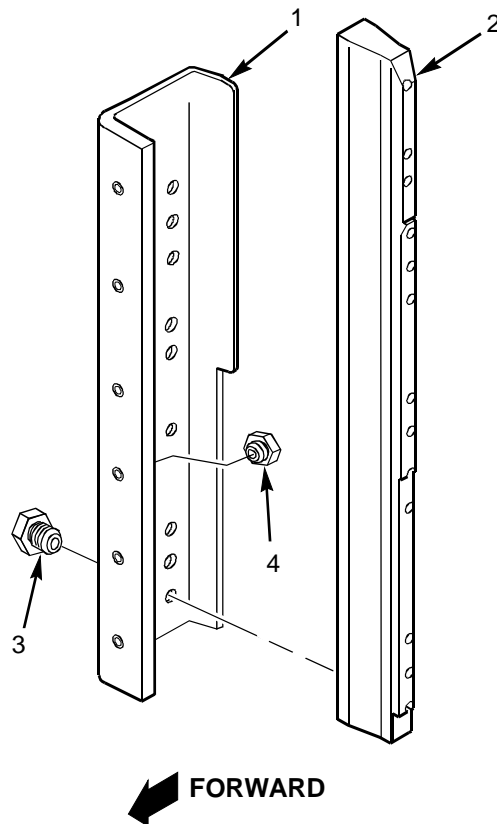

Figure 1-2. Left A-Pillar Reinforcement Installation (2 and 4 Door)
- 2) Install left side A-pillar reinforcement, A-pillar armor, and left front door assembly (see figure 1-2).
- a. Apply sealing compound to threads of nine A-pillar reinforcement long inserts (3) and six A-pillar reinforcement short inserts (4).
- b. Install six A-pillar reinforcement short inserts (4) in left A-pillar reinforcement channel (1).
- c. Install left A-pillar reinforcement channel (1) to A-pillar reinforcement bar (2) with nine A-pillar reinforcement long inserts (3) per figure 1-2.